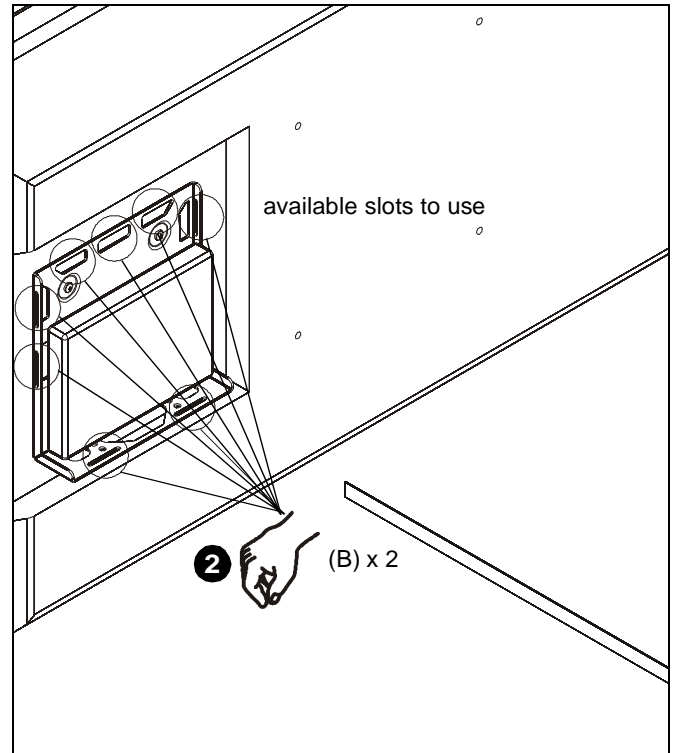

Figure 5
1. Set media player in media player bracket (A) at desired mounting position.
2. Use two hook and loop straps (B) to secure media player to bracket by threading the straps through the various slots on the bracket. (See Figure 5)